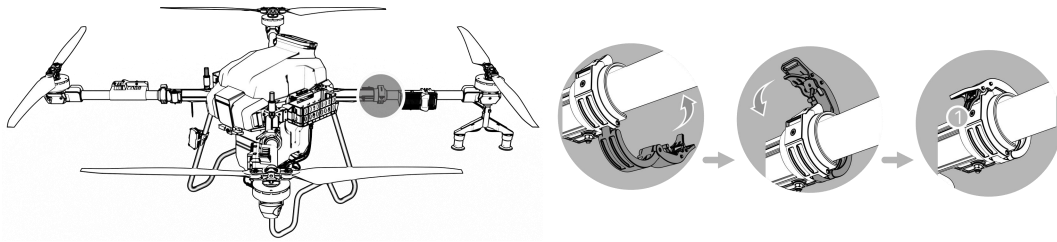

Figure 1-34 Arm Clamp
**Step4:** Make sure the clamping component is tightened, as shown in Figure 1-34.